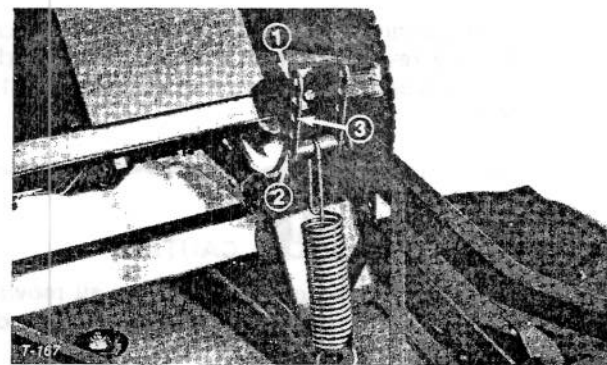

Figure 22
1. Leave the spring in the center bracket hole and operate the mower in the area it will normally be used (Fig. 22).
3. Relieve spring tension by lowering the clevis pin one hole lower in the bracket (Fig. 22).
5. If the cutting unit stays down and appears to operate acceptably during the initial operating check, it is still advisable to stop, disengage PTO, engage parking brake, be sure traction pedal is in neutral, raise the cutting unit, stop the engine and raise the clevis pin one hole to increase spring tension (Fig. 22).
6. Check performance in the turf. If the unit still stays down on the turf, repeat item 5. Repeat until unit raises during operation, then decrease spring tension by lowering the clevis pin one hole in the bracket (Fig. 22).